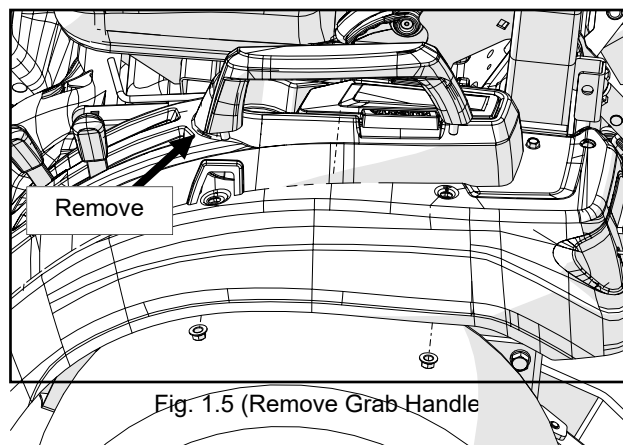

Fig. 1.5 (Remove Grab Handle)
- 1.5 Remove the two grab handles. See Figure 1.5. The consoles on either side may need to be loosened to get the grab handles out without damage. Tighten any hardware that was loosened. Save the grab handles and nuts that secured them to give to the tractor/cab owner.